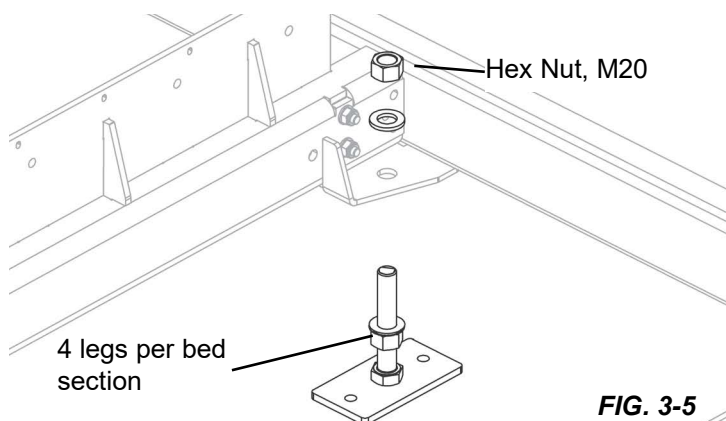

FIG. 3-5
2. Apply the bed legs to the sections as shown in Figure 3-5.